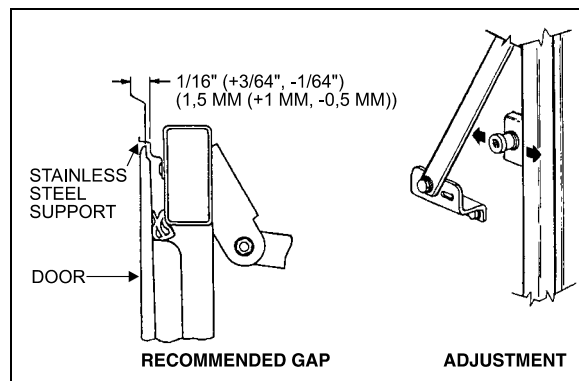

FIGURE 64: BAGGAGE COMPARTMENT DOOR 18069
6. Loosen the striker pins just enough to allow them to be moved with a hammer. Working from inside compartment and with the door closed (lower catches engaged), hit the pin washers to horizontally move the pins and consequently the door, while an outside assistant checks the fit. A gap of $1/16'' + 3/64'' - 1/64''$ (1,5mm +1mm, -0,5mm) between the stainless steel support for the lateral panel and the door panel lip is recommended (Fig. 64).